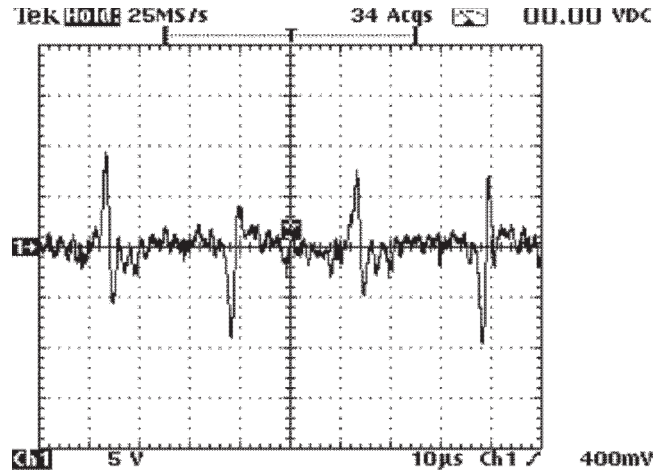

Figure 2.4. Noise and distortion residual with bias properly set
5. Adjust the bias trimpot VR43 (channel 1) or VR166 (channel 2) for a total THD+N figure of 0.07% or slightly less. Figure 2.4 shows what the residual crossover spike should look like when the bias